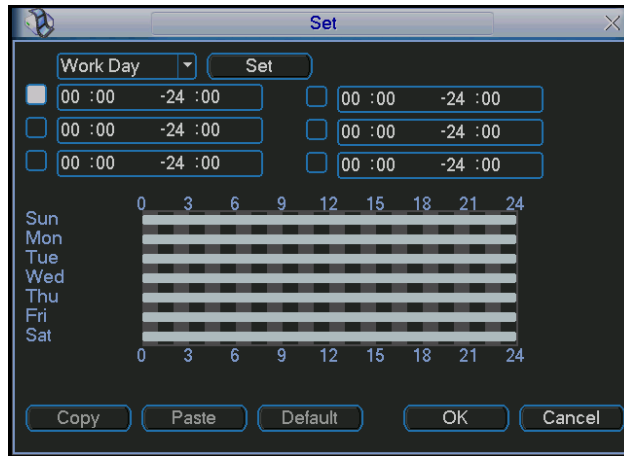
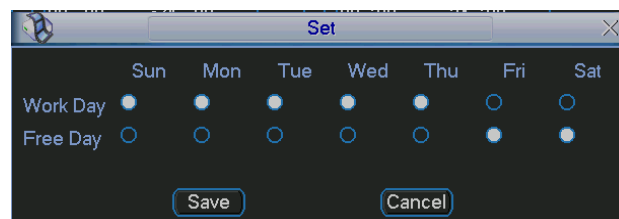

Figure 4-27
Figure 4-28
- Period: Click set button, you can see an interface is shown as in Figure 4-27. Here you can set for business day and non-business day. In Figure 4-27, click set button, you can see an interface is shown as in Figure 4-28. Here you can set your own setup for business day and non-business day.